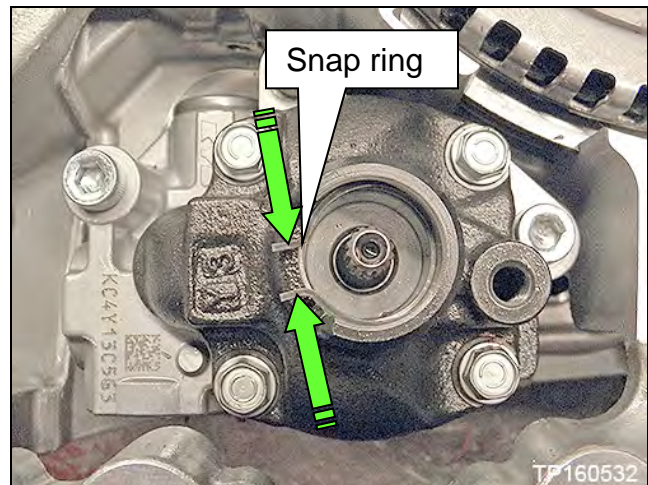

Figure 15C
- b. Oil pump snap ring (Figure 15C).